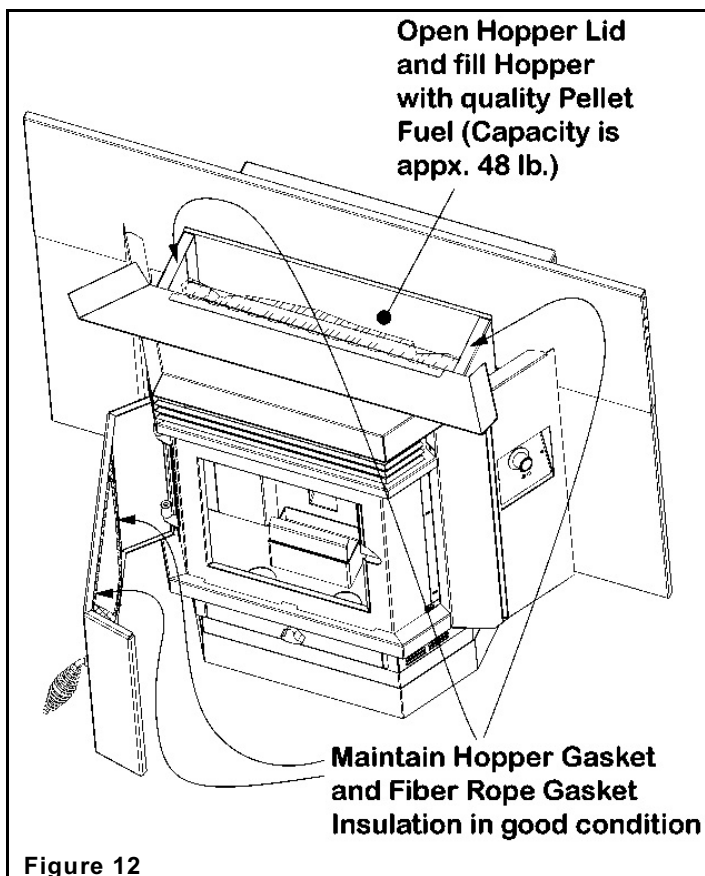
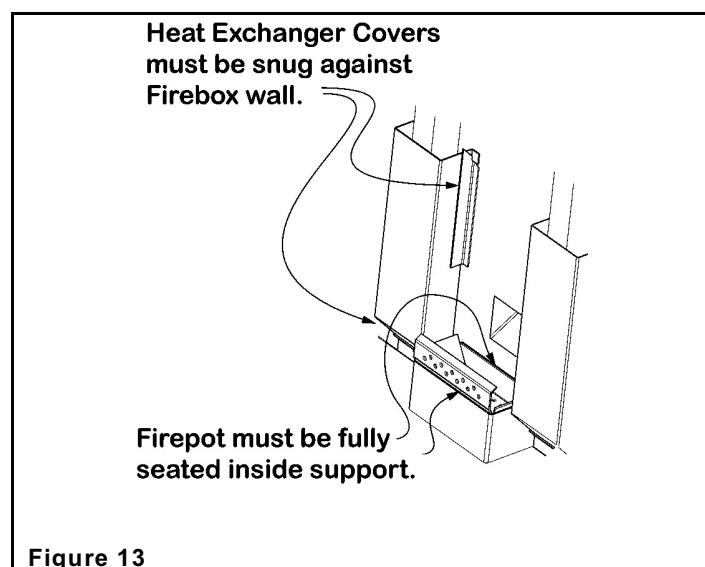

Figure 12
Figure 13
- a. Open door and remove Heat Exchanger Cover. To remove, simply slide up and out from retaining angle bracket (**Figure 12**). Clean one side at a time. With one slide cover removed, **leave door open** and turn control button to the "**CLEAN**" position. Let heater run until ash in Fire Pot area is vacuumed out by heater fan. Turn off and replace cover. Remove remaining cover and repeat procedure for the other side. The vent pipe should be cleaned out after this procedure. Remove the clean-out port cover (**Figure 13**) and vacuum as required.
- a.** Open door and remove Heat Exchanger Cover. To remove, simply slide up and out from retaining angle bracket (**Figure 12**). Clean one side at a time. With one slide cover removed, **leave door open** and turn control knob to the "**CLEAN**" position. Let heater run
until ash in Fire Pot area is vacuumed out by heater fan. Turn off and replace cover. Remove remaining cover and repeat procedure for the other side. The vent pipe should be cleaned out after this procedure. Remove the clean-out port cover (**Figure 13**) and vacuum as required.
The exhaust blower should be checked for excessive Fly-ash buildup. Regular and routine maintenance utilizing the **CLEAN OUT** feature will keep the exhaust blower housing and fan blades clean. This cleaning can only be done when the heater is NOT burning. For best results run the fan in the **CLEAN OUT** position **with the door open** for approximately one minute or until ash is no longer being picked up by the fan. Remember, you must always check the clean out tee after utilizing the **CLEAN OUT** feature (**Figure 13**).